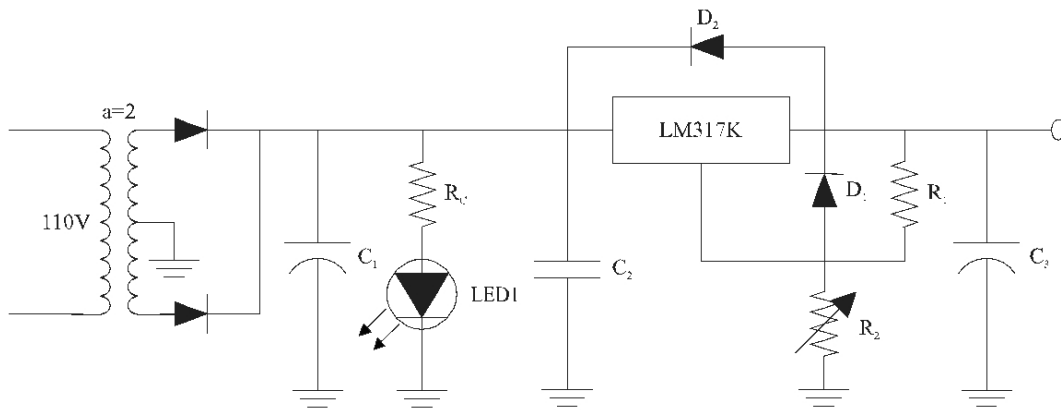

Figure 6-8. Circuit of exercise 6.2.
6.2. Repeat the previous procedure, but for the circuit in figure 6.8.
6.4. If the potentiometer R_2 is $5k\Omega$, what is the maximum output voltage that can be reached in the circuit of Figure 6.8?
6.5. In the circuit of Figure 6.8, what is the most recommended value for resistor R_1 at the regulator output?
6.6. What would be the value of potentiometer R_2 in the circuit of Figure 6.8 to obtain a minimum output voltage (1.25V)?